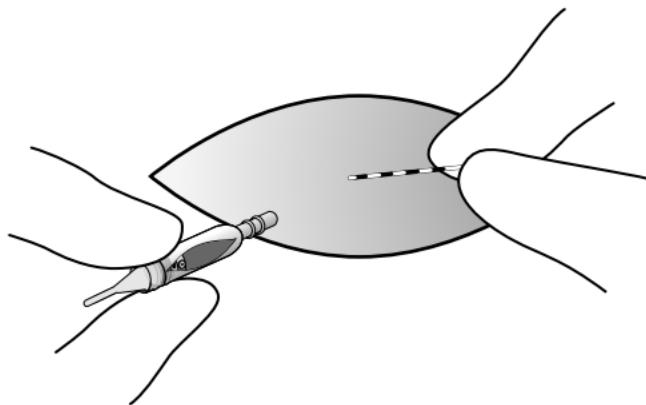

Figure 8. Withdraw lead cap and connector boot.
8. Withdraw the lead cap and connector boot through the incision and discard (Figure 8).